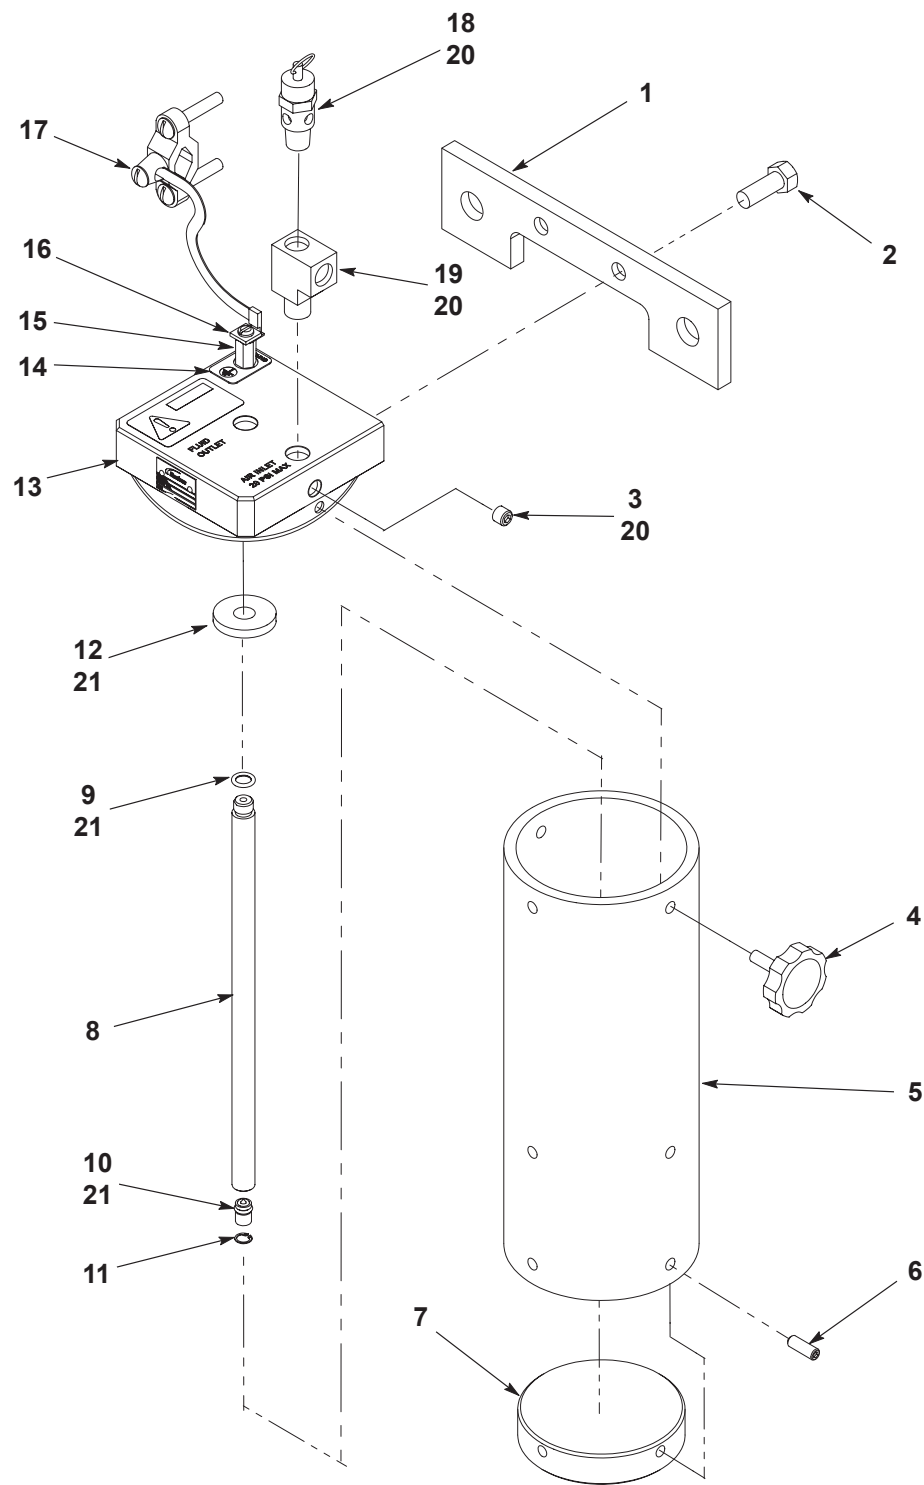

Figure 5 Parts
To order parts, call the Nordson Industrial Coating Systems Customer Support Center at (800) 433-9319 or contact a local Nordson representative. See Figure 5 and the following parts list.
See Figure 5.